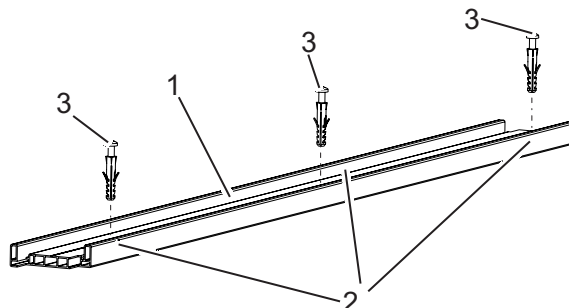

Fig. 12: Mounting the bottom rail
1. Align bottom rail (Fig. 12/1) according to the system drawing.
2. Mark the boreholes (Fig. 12/2) and drill the holes.
3. Fasten the bottom rail with screws and wall plugs (Fig. 12/3) suitable for the building fabric to the floor.